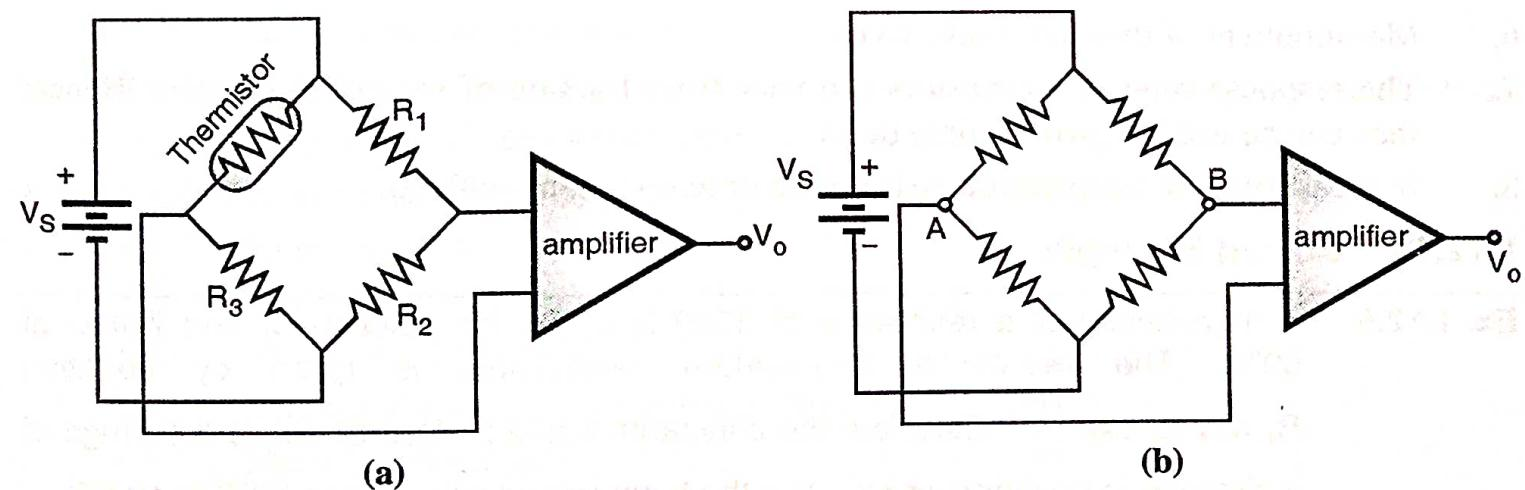

Fig. 1.12.18 : RTD resistance measurement
- The changes in the thermistor resistance due to changes in temperature can be converted into proportional voltage changes using the standard Wheatstone bridge as shown in Fig. 1.12.18(a) and (b).
- The Wheatstone bridge shown in Fig. 1.12.18(b) has higher sensitivity because it uses two thermistors instead of one.